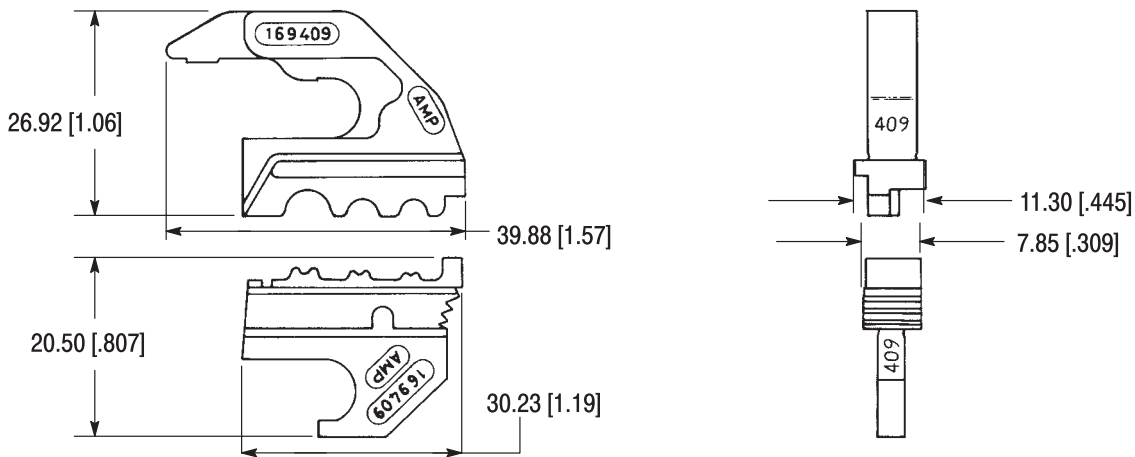

Figure 5
5. REPLACEMENT AND REPAIR (Figure 5)